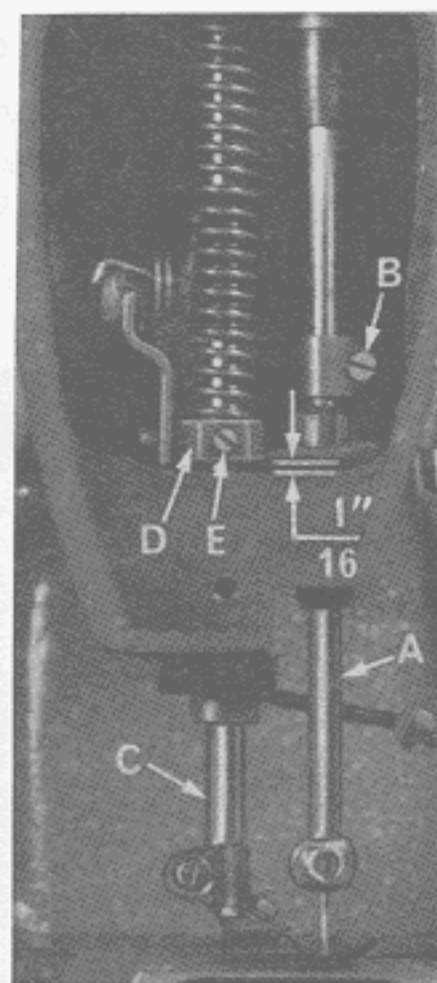
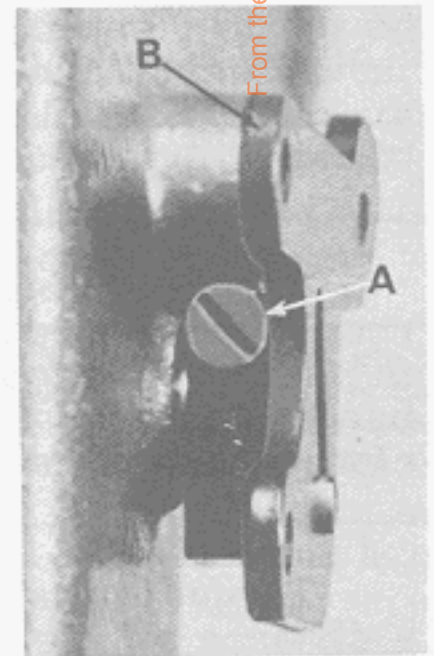

Fig. 4
Fig. 12
with the looper point flush with the left side of the left needle. If adjustment is necessary, loosen screw (B, Fig. 4) and move needle bar (A) up or down as required and retighten screw. Care should be taken not to disturb the alignment of the needle bar when moving the needle bar either up or down.
If adjustment is needed, loosen tension release lever screw (A, Fig. 12), located at the back of the machine and move tension disc separator as required. Retighten screw. After adjustment there should be no binding at any point.
The height of the presser bar (C, Fig. 4) is set correctly if it is possible to remove the presser foot when the foot lifter lever (B, Fig. 12) is fully depressed. Also there should be approximately $1/16$ inch clearance between lower surface of the presser bar connection and guide (D, Fig. 4) and the bottom surface of head opening in the bed when the foot lifter lever is released and the presser foot resting on the throat plate, with the feed dog down below the throat plate.